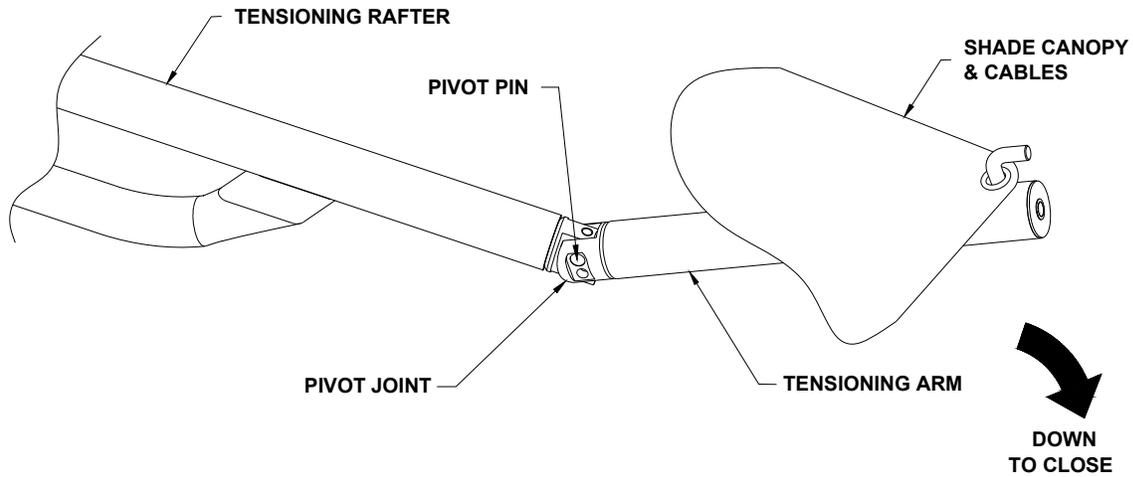

Figure 17: Tensioning Arm in ‘Open Position’
4. Carefully push up tensioning arm into the 'Open Position'. See Figure 17.
3. Look to make sure pivot pin is in the pivot joint of all tensioning arms. See Figure 17.